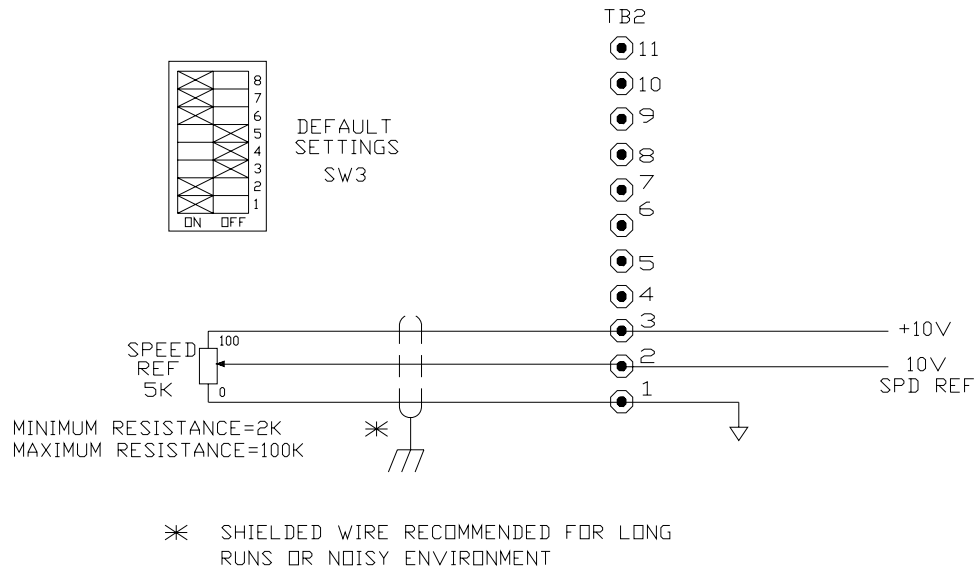

Figure 10. Signal Connection Diagram, Motor Speed Potentiometer, Unidirectional
11. If remote operator control wiring and/or signal wiring is required, connect the controller as shown in the appropriate connection diagram (Figures 3 through 18). Figures 3 through 9 show operator control connections, and Figures 10 through 18 show signal connections.